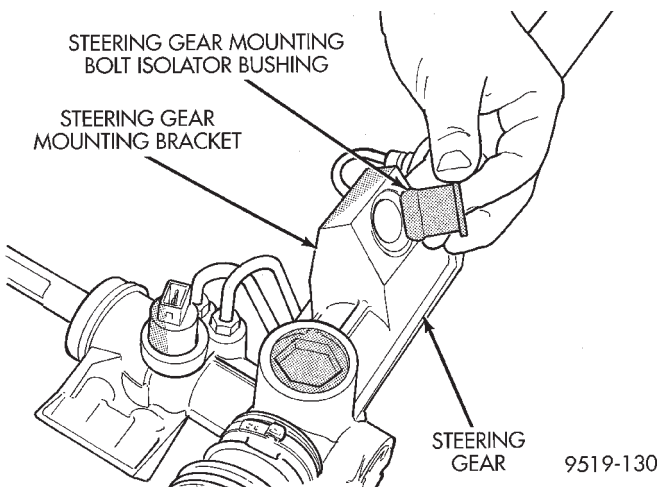

Fig. 25 Installing Mounting Bolt Isolator Bushing
- (1) Lubricate replacement mounting bolt isolator bushing using Mopar, Silicone Spray Lube or an equivalent.
- (2) Install the mounting bolt isolator bushing into the steering gear mounting bracket from the bottom side of the bracket (Fig. 25).